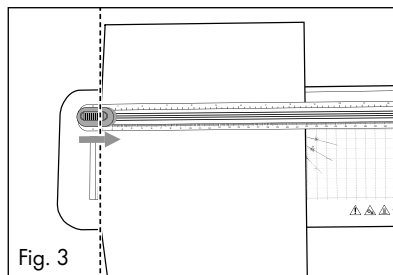

Fig. 3
- ▶ When cutting documents, strips of paper may remain in the cutting rail ③ and may be difficult to remove.
- 1) Slide the cutting head ④ as far as it will go. The cutting head ④ can be pushed to both ends of the cutting rail ③.
- 2) Feed the paper/pouch under the cutting rail ③.
- 3) Use the markings on the cutting ruler ① to precisely align the paper/pouch if you want to shorten or cut at an angle, for example (see Fig. 3 and 4).